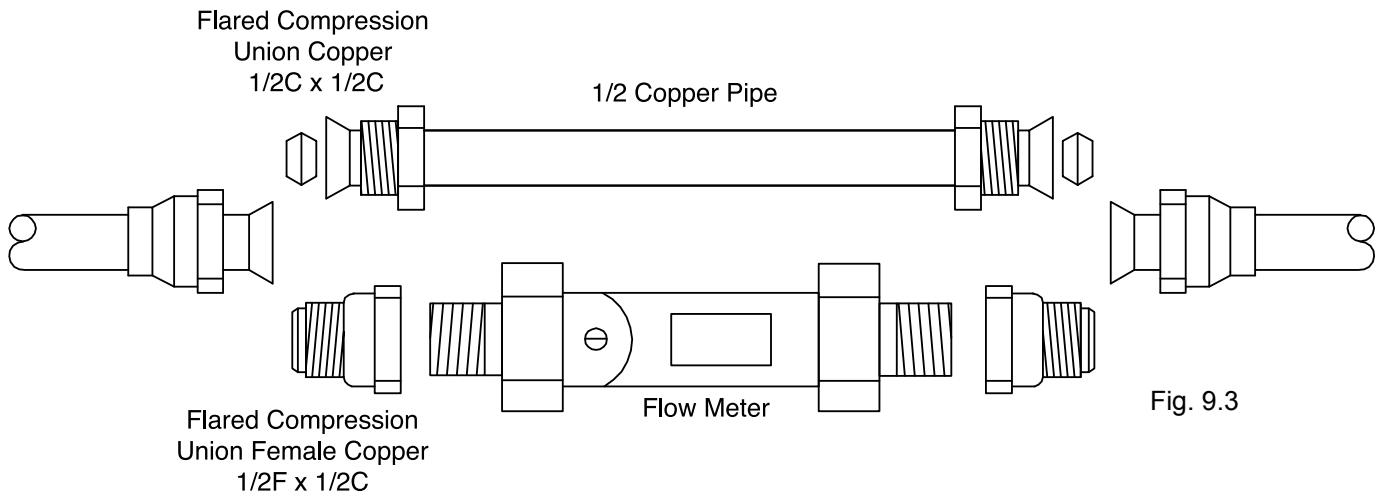

Fig. 9.3
- In order to confirm that the correct flow rate is being achieved a flow meter should be used. See figure 9.2. The flow meter should be used as a tool, and so replaced with a normal section of copper pipe once the system is working properly. Each end of the flow meter which provides a "tail & nut" union providing a 1/2M thread can be fitted with a "flared compression union female" and connected into a section of copper pipe. See figure 9.3
If the flow rate is too fast, install a quarter-turn isolation valve on the solar supply line after the pump, and adjust that to set the desired flow rate. REMOVE the flow meter once the flow rate is set and replace with a section of copper pipe with "1/2C x 1/2C Union Copper - Copper" fitted at both ends, which can easily connect to the flared nuts already in place on the main copper line. See figure 9.3.